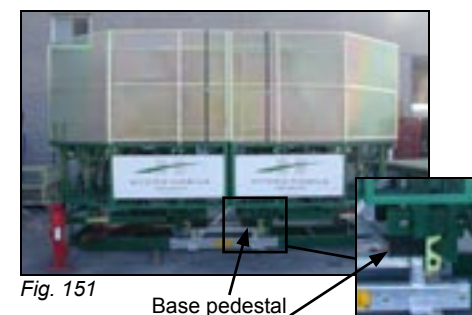

Fig. 151
- 2- Lower the platform until it rests on the rubbers (4) mounted on the base pedestal (fig. 151).